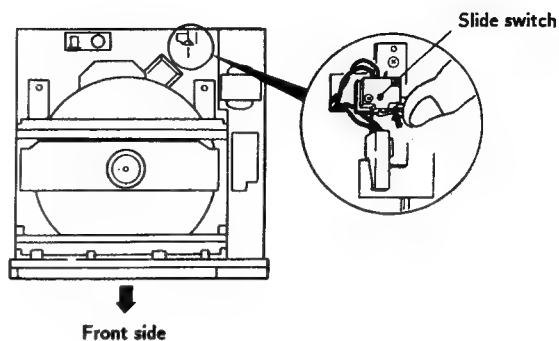

Fig. 7
1. Switch the power on while pressing the slide switch, and then immediately press the play key. Release the slide switch after the disc starts to turn. (Fig.7)